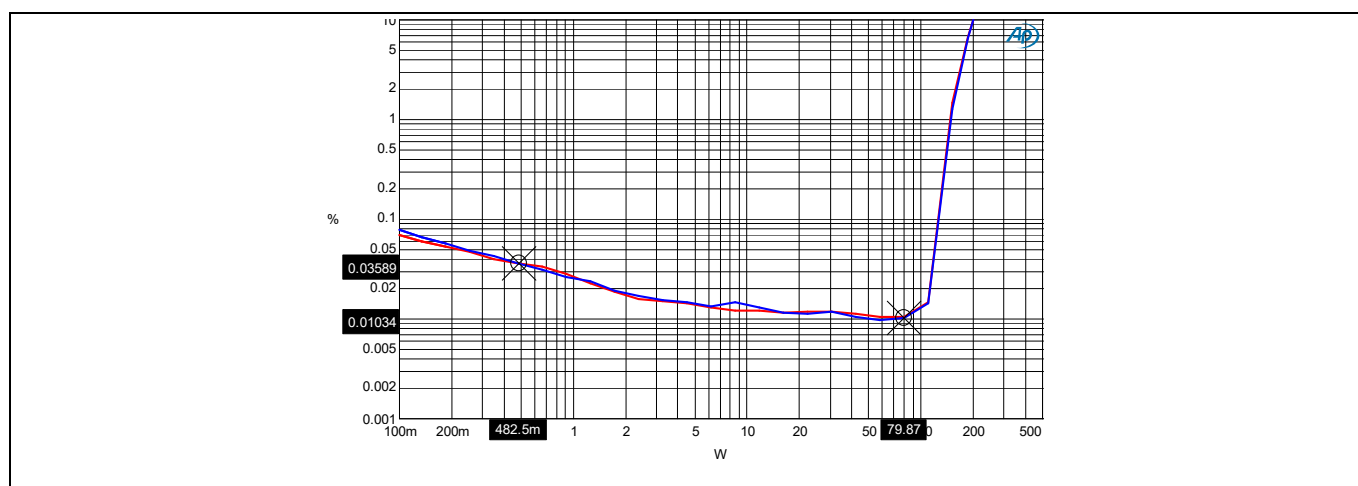

Figure 4 Power vs. THD+N 4 Ω load
8. Run the AP test as shown in Figures 4 to 11, below.